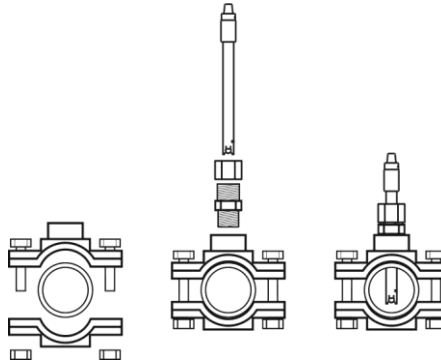

Fig. 8
- Install the pH and ORP electrode holders in the circuit through ½" saddles (not included with the equipment) (Fig. 8)